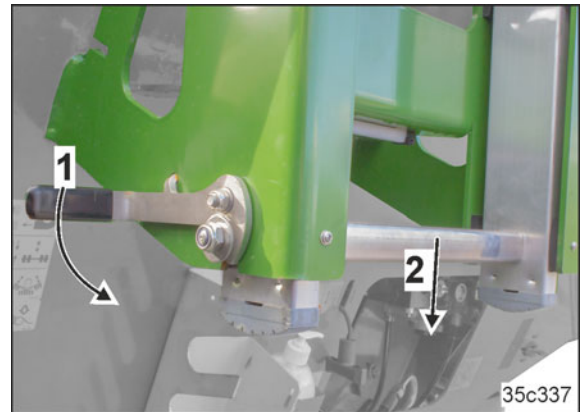

Fig. 250
1. Actuate the lever (Fig. 250/1) and unlock the ladder.
2. Pull the ladder down (Fig. 250/2).